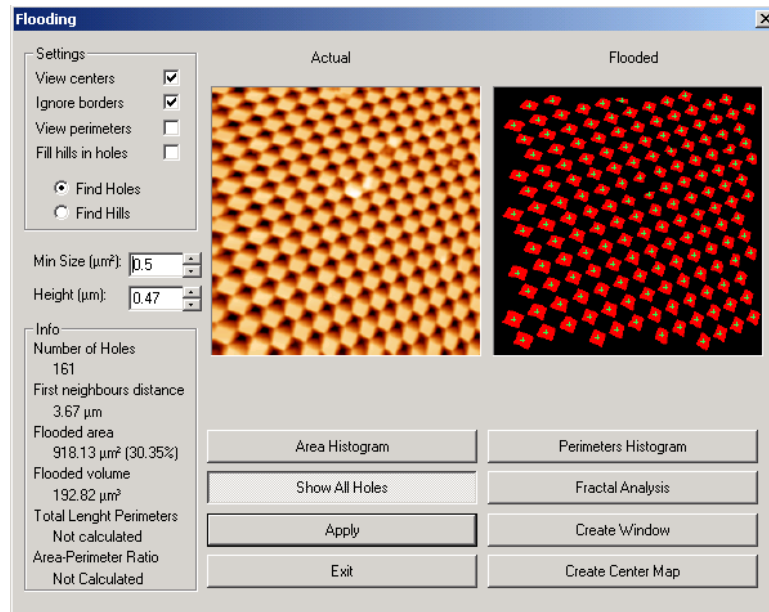

Figure 2
7. You may need to adjust the height and min size if needed, in order to obtain one green cross for each real hole in your grid. Look at Figure 2 to see the example.